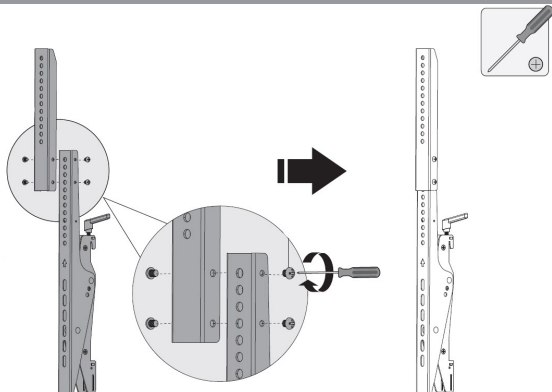

Figure 1
1. Slide the **Extension Bracket** over the **Display Mounting Bracket** and align the 4 **Screw Holes** in the **Display Mounting Bracket** with the 4 **Screw Holes** in the **Extension Bracket**. (Figure 1)